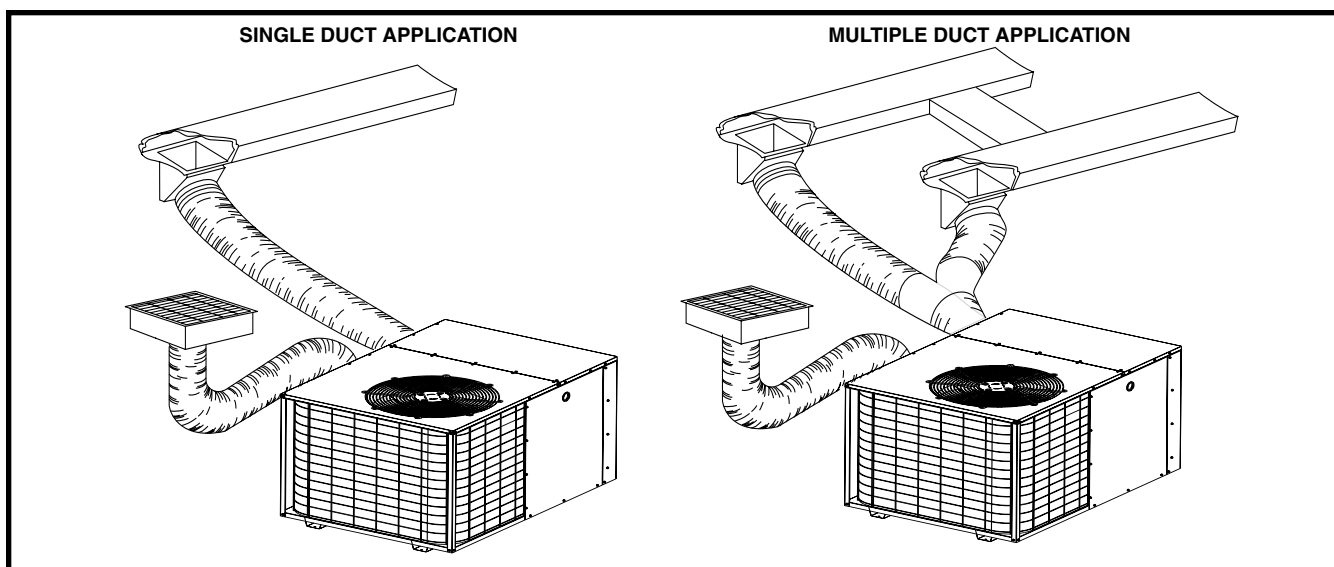

Figure 3. Typical Duct Applications
- The supply duct system, including the number and type of registers, will have much more effect on the performance of the system than any other factor. The duct must be sufficiently large to conduct an adequate amount of air to each register. See Figure 3 \(page 6\).